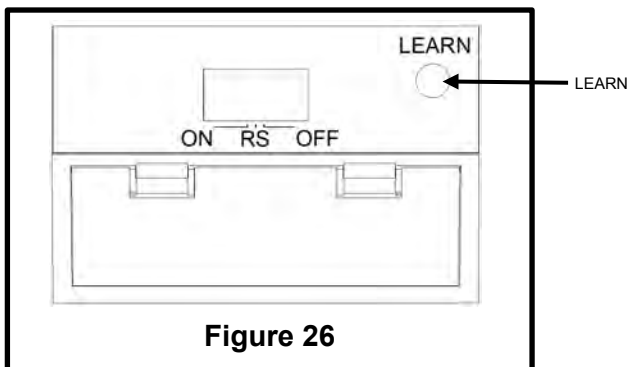

Figure 26
3. Set the same code combination, as used in the transmitter's code switches above, in the receiver, by using the receiver's code switches. Move the slide button to the "REMOTE" position (Figure 26) and place the receiver in front corner of the fireplace as far from the burner as possible.